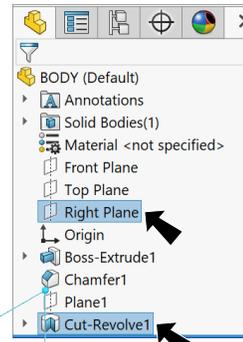

Fig. 25
Step 1. **Ctrl click Right Plane** and **Cut-Revolve1** feature to select plane and feature, **Fig. 25**.